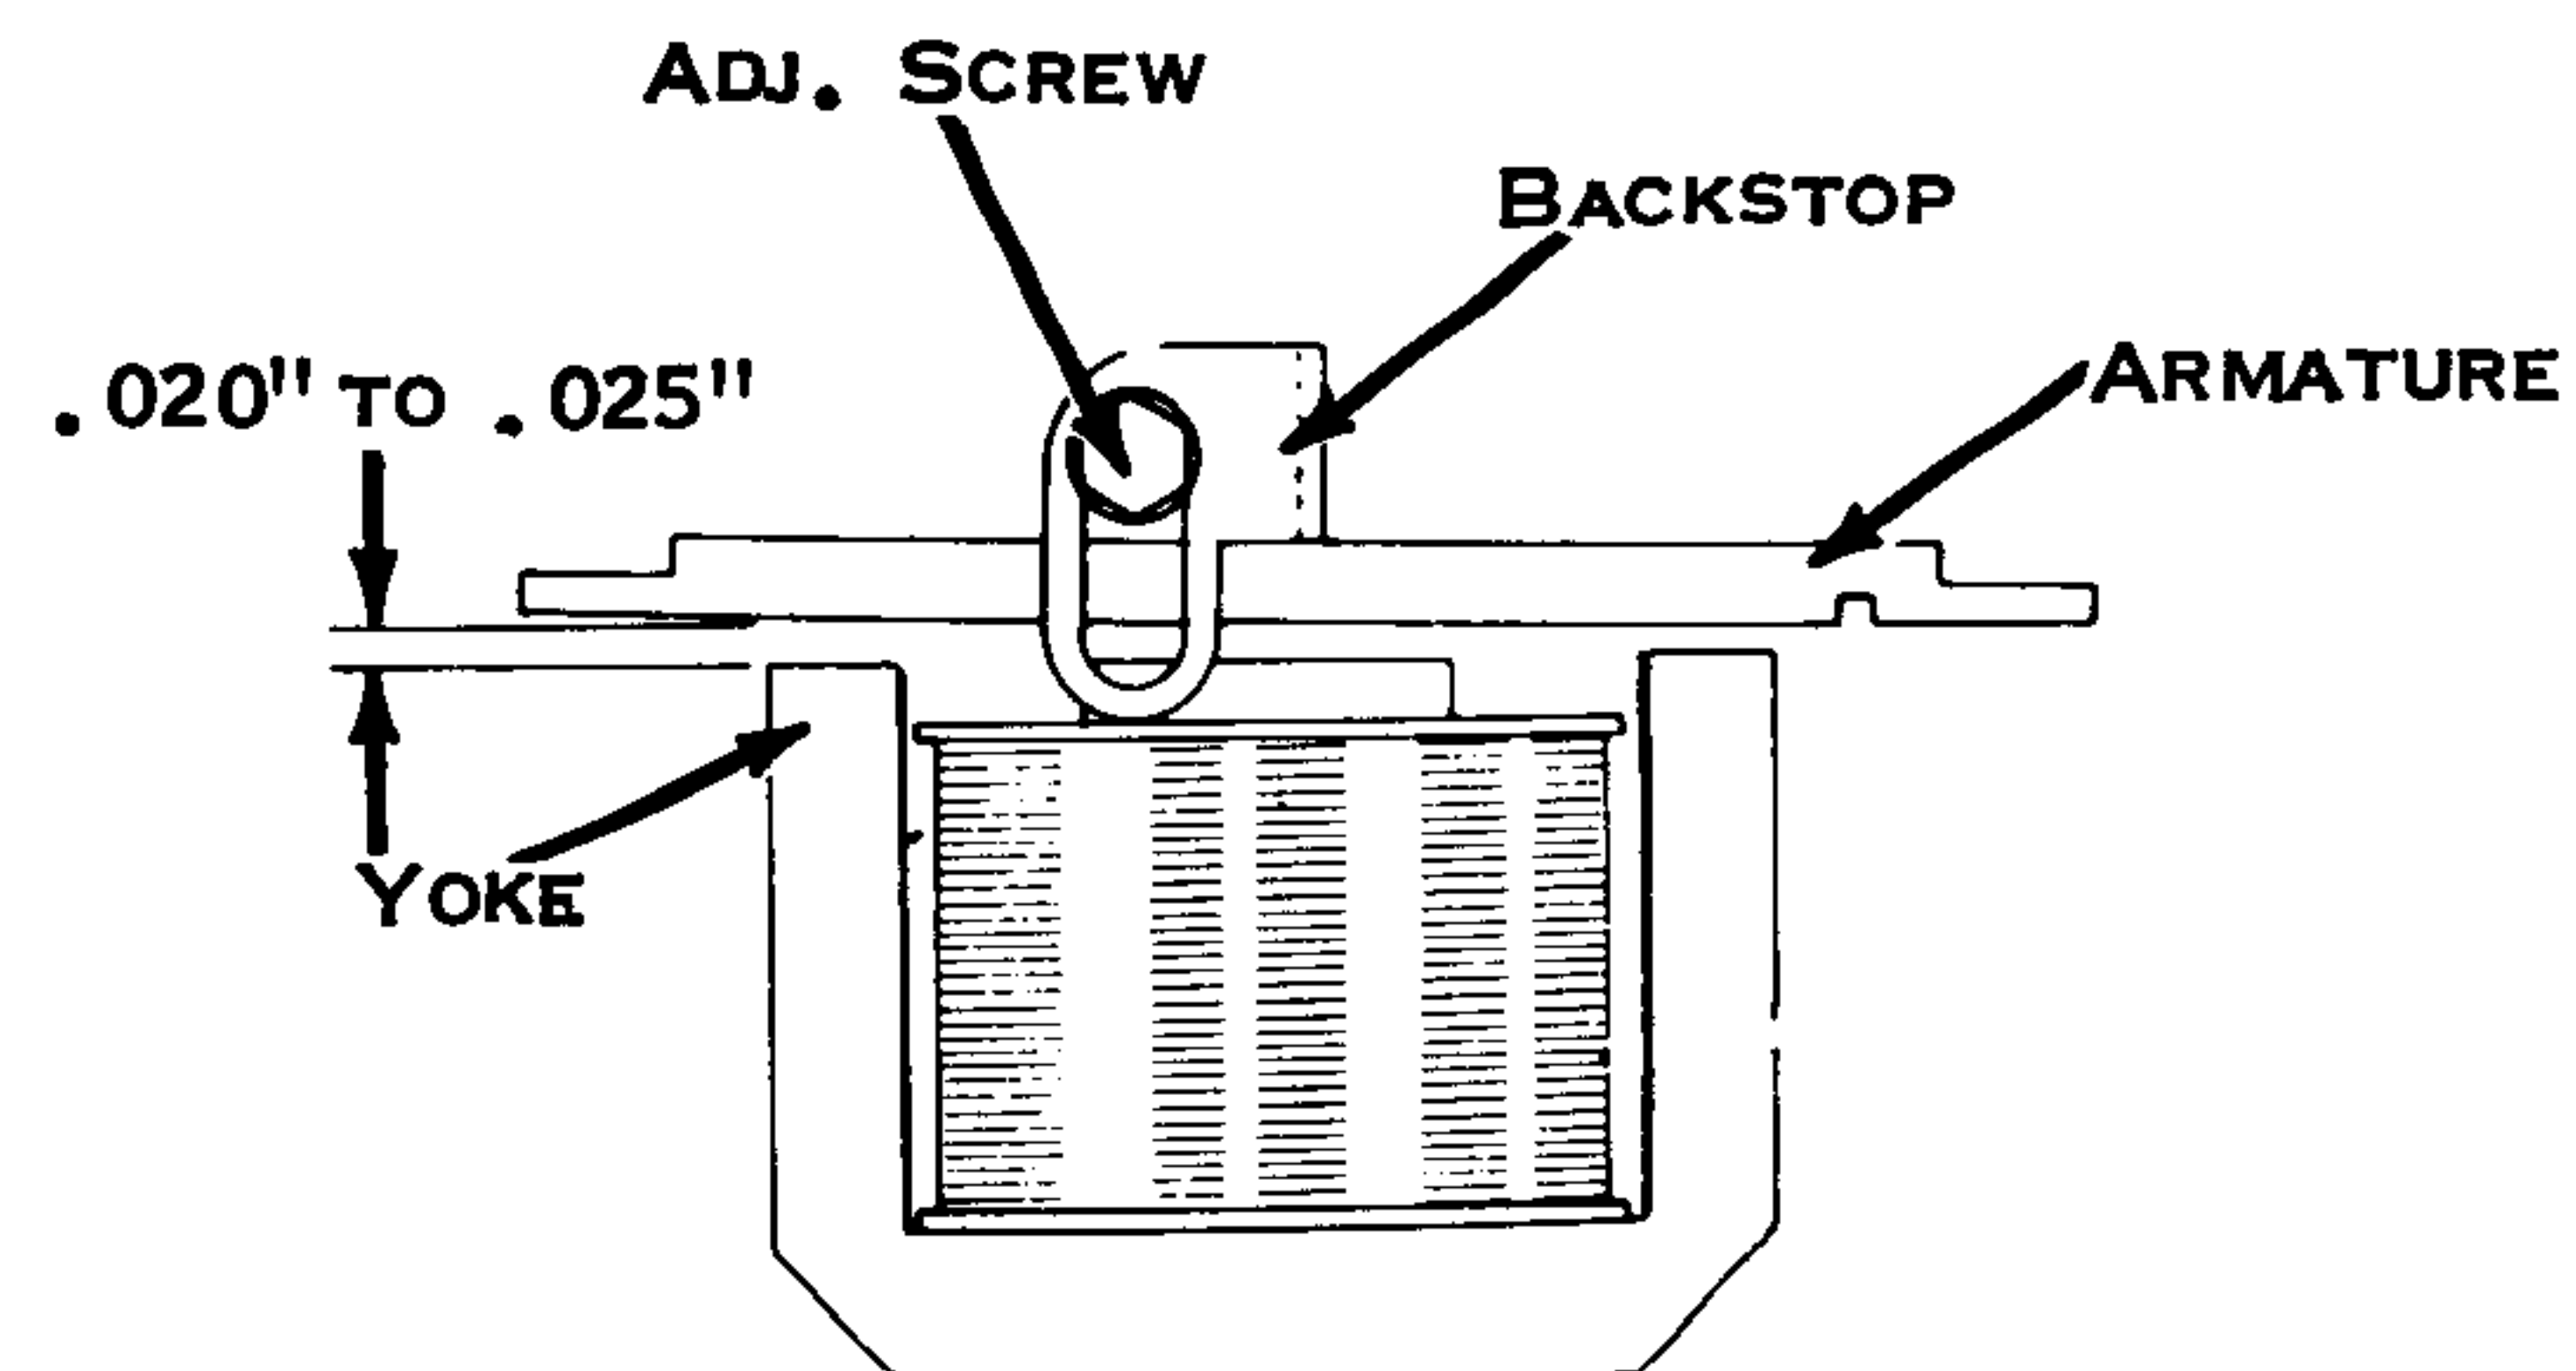

Figure 130. Armature Backstop
3. Armature Backstop (Fig. 130) - Position (armatures at rest) so that the armatures clear their yokes by .020" to .025".